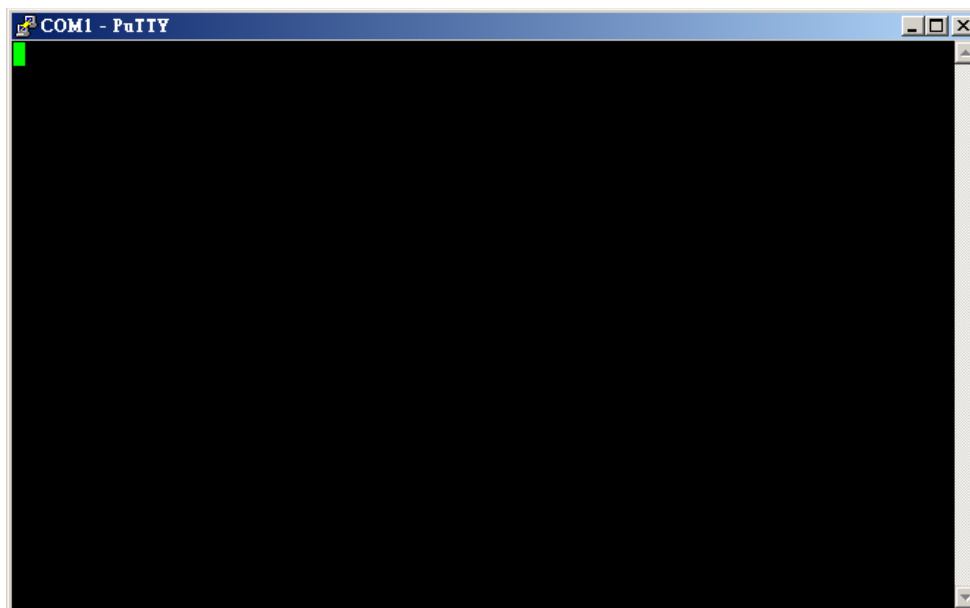

Figure 50: PuTTY terminal window
- Push open and a window will pop up (see figure 50)